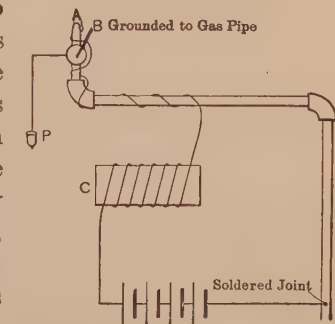

FIG. 202. Simple gas-lighting device, using a spark coil.
*P* is opened, an electric spark jumps across the gap. It is necessary then merely to open an electric circuit of this kind at such a place that the gap occurs in the stream of gas coming from a burner. In Fig. 202, note that one side of the line is grounded by being soldered to the gas pipe, which forms the return line. The other side of the line goes through the spark coil *C* and is wrapped around the pipe, though carefully insulated from it, and ends in the point *A*. The other side of the line